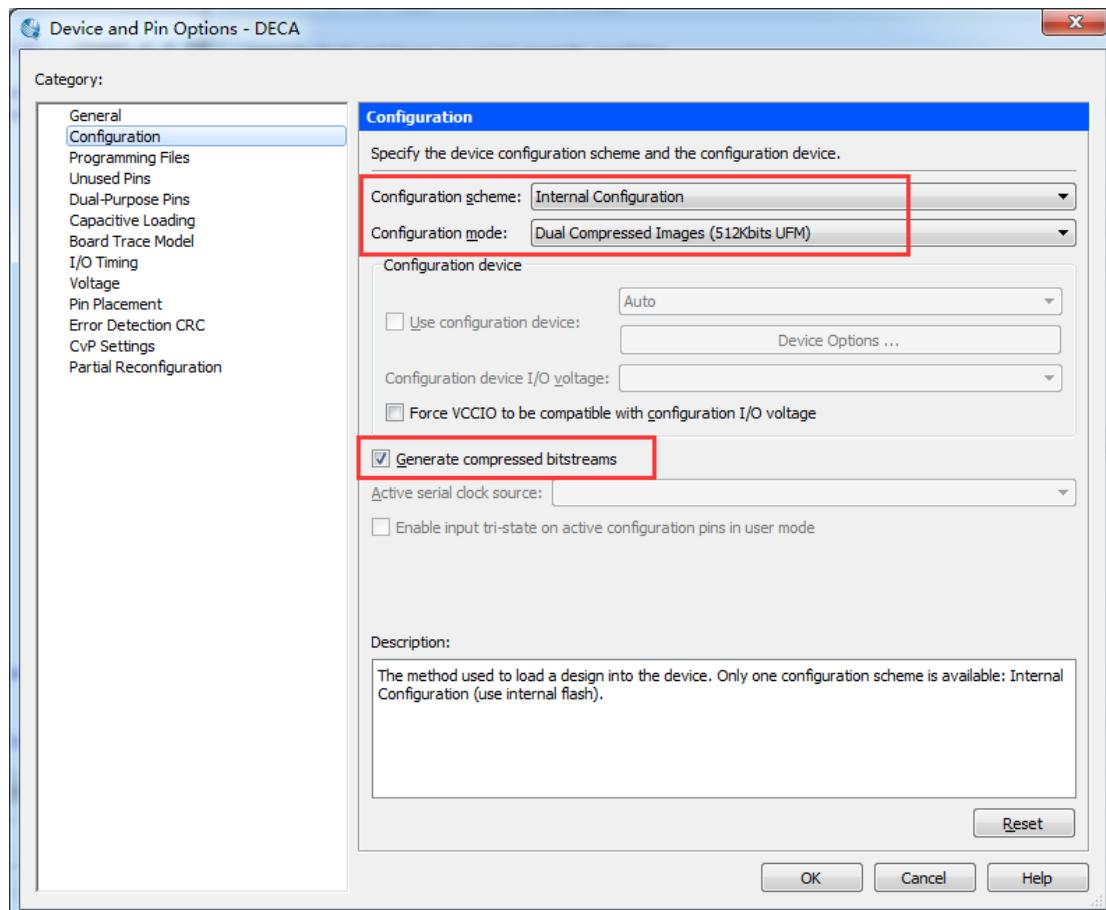

Figure 8-12 Device Window
2. Click **Device and Pin Options** to open the Device and Pin Opinions windows, and in the **Configuration** tab, Set the **Configuration Scheme** to **Internal Configuration** and the **Configuration Mode** to **Dual Internal Images**. Check the Option of **Generate compressed bitstreams**. shown in **Figure 8-12**.